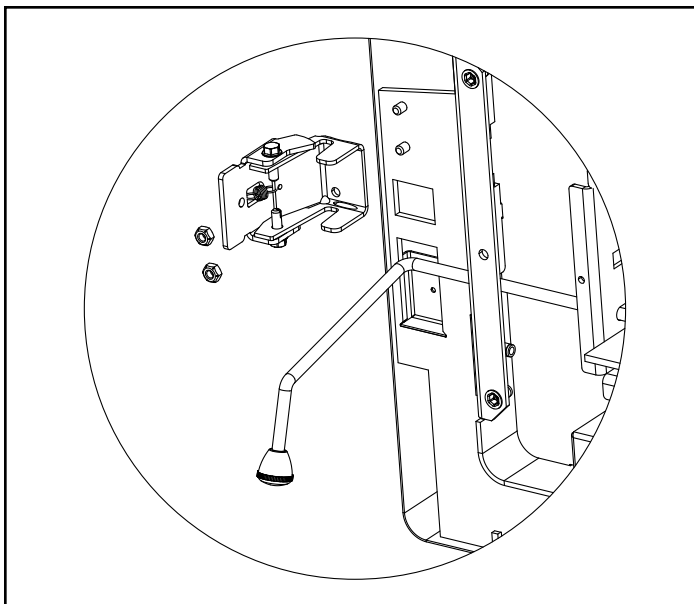

Figure 19.1
9. Install ARS latch by sliding latch assembly over 2 threaded studs protruding from the bottom on the left hand side of the appliance. Secure by using two nuts use 7/16 socket wrench (**Figure 19.1 on page 19**).
9. Install ARS latch by sliding latch assembly over 2 threaded studs protruding from the bottom on the left hand side of the appliance. Secure by using two nuts use 7/16 socket wrench (Figure 19.1 on page 19).